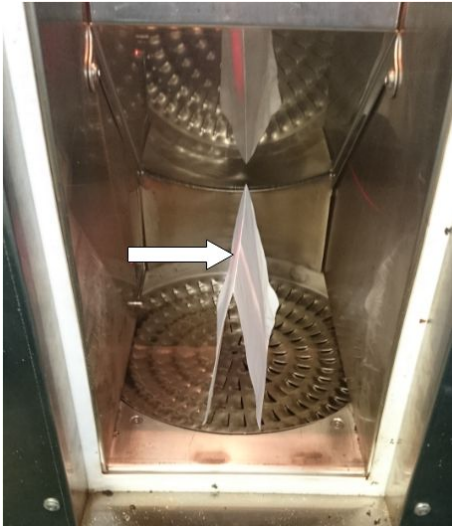

Figure 3: Paper screen
1. Put a folded sheet of white paper in the chamber as shown on Fig.3, so the light ray of the sensor is screened.